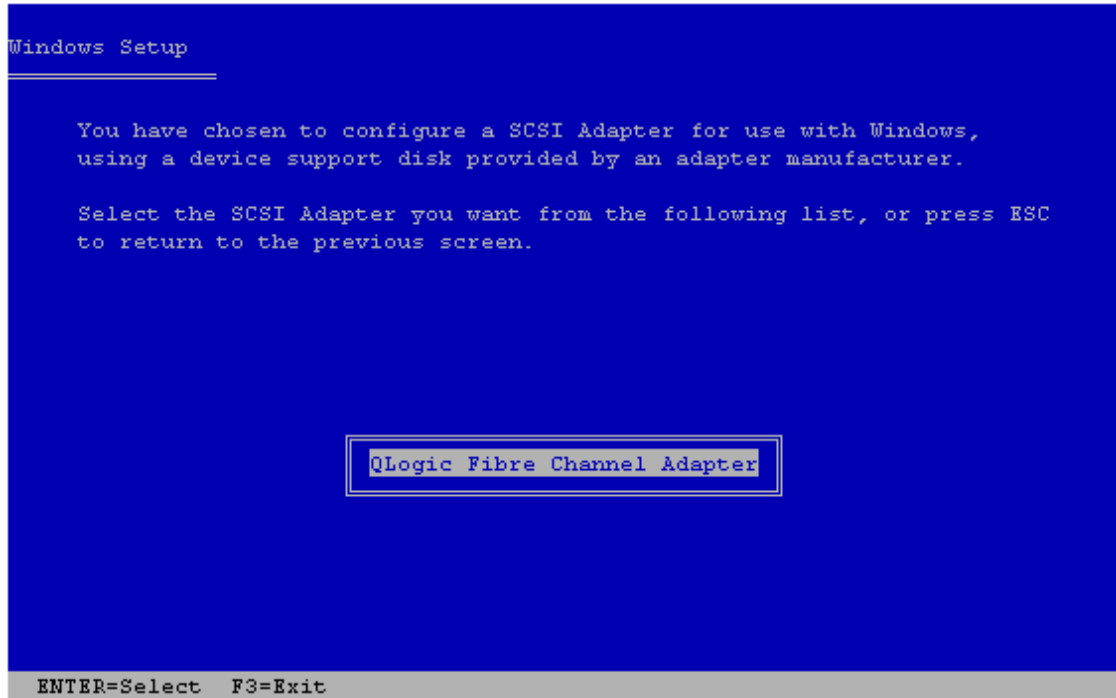

Figure 36 Adapter selection screen
4. Insert the EMC-approved adapter Drivers diskette or EFI RAMDisk if applicable for your OS. Then press **Enter** to continue. This displays a screen similar to Figure 36 on page 59.